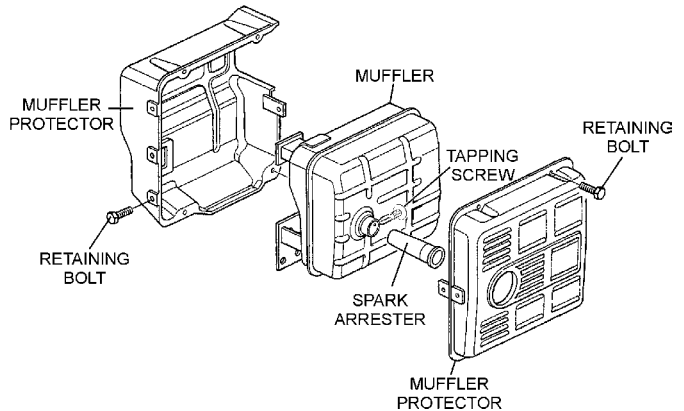

Figure 38. Spark Arrester Removal
1. Remove the muffler protector retaining bolts (Figure 38), then remove muffler protector.